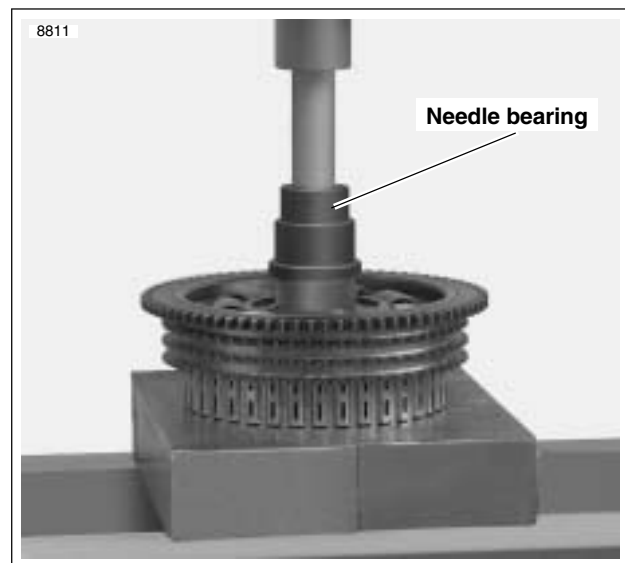

Figure 6-32. Installing Clutch Shell Needle Bearing
5. See Figure 6-32. Place clutch shell on support blocks with sprocket side facing up.